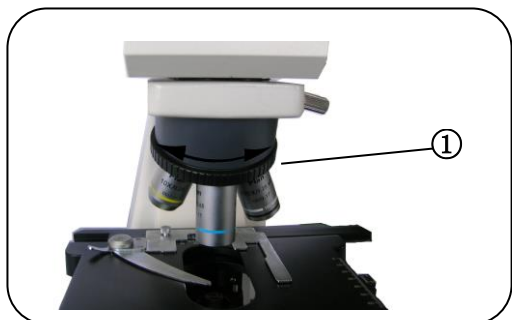

Fig. 11.
11. Switching between objectives (Fig. 11.)